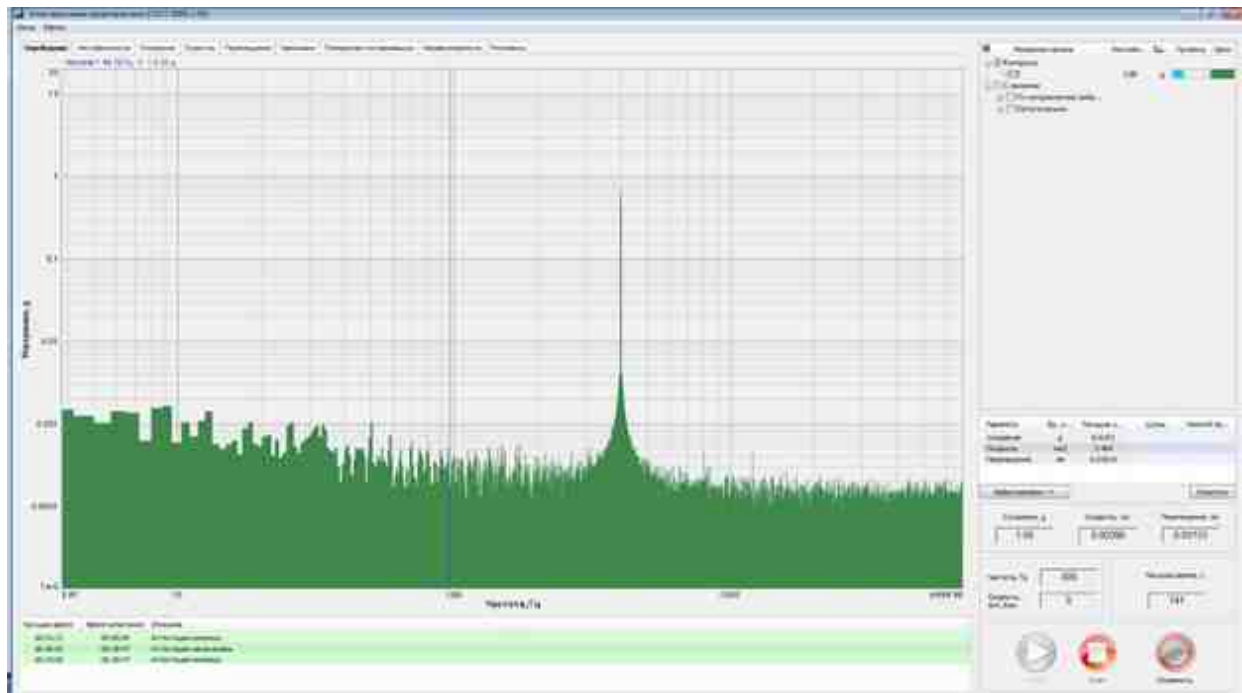

Fig. 6.3 Testing tab. Spectrum graphic with test signal present
6. Make sure that the discrete component appeared on the spectrum graphic (Fig. 6.3) at the given test signal frequency and amplitude.